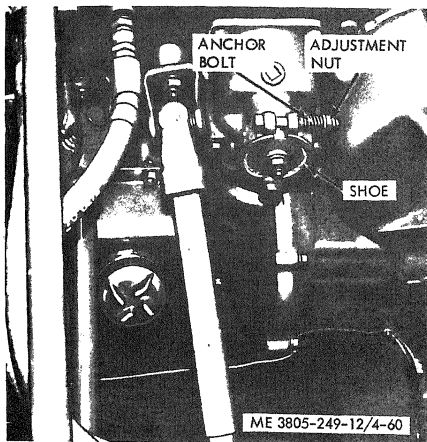

Figure 4-60. Blade lift control brake.
(3) Insert a 0.001 or 0.005 inch thickness gage between the collar and the lift control housing. Move the collar against the gage. Tighten the setscrew.
(4) Loosen the bolts at the lift arm.
(5) Move the shaft as far forward as possible and hold in position.
(6) Insert a 0.001 to 0.005 inch thickness gage between the lift arm and bearing assembly. Move the lift arm against the gage and tighten the bolts securely.
c. *Blade Lift Control Brake Repair.* Refer to figure 4-60.
(1) Loosen the adjustment nut and unscrew the anchor bolt. Remove the brake shoes.
(2) Inspect the shoes, linings and block. Replace if damaged or badly worn.
(3) Install the shoes and secure with the anchor bolt.
(4) Adjust the blade lift worm to remove end clearance (subpara e).
(5) Adjust the brake (subpara d).
d. *Blade Lift Brake Adjustment.* Adjust one brake at each blade lift control housing. Tighten the adjusting nut (fig. 4-60) until the lining contacts the brake block. The nut is self-locking.